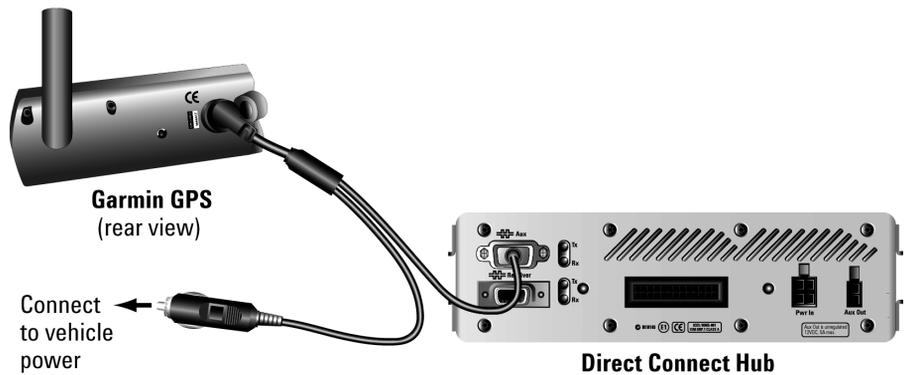

Figure 21 Connect the GPS to the AUX connector
- 1 Connect the interface cable to the GPS receiver. See Figure 21.
- 2 Connect the D-shell connector of the cable to the  AUX port on the rear panel of the Direct Connect Hub. See Figure 21.